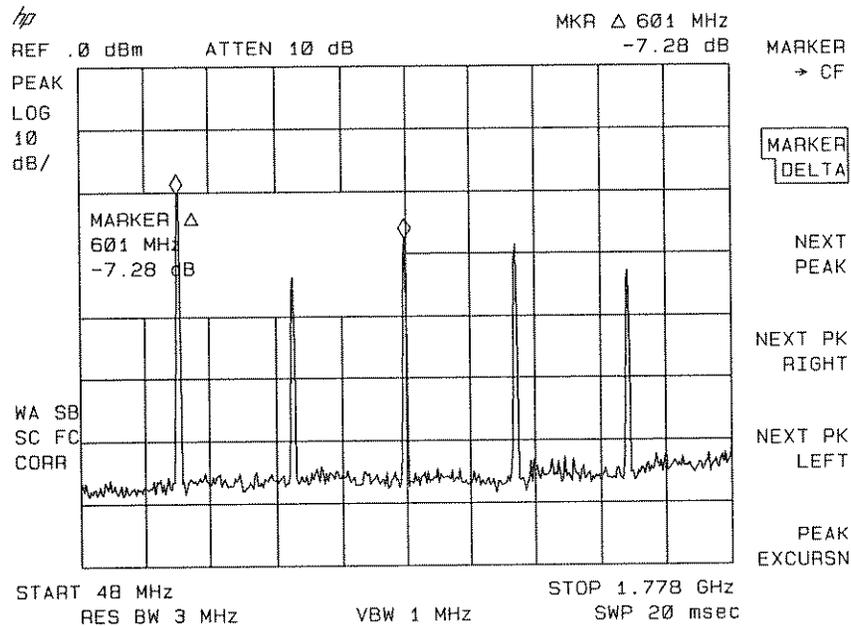

Figure 6-14. Using the Delta Meas Function
- The **DELTA MEAS** softkey also finds and displays the frequency and amplitude difference between the two highest-amplitude signals. To use this automatic function, first remove the local oscillator (LO) signal from the display by pressing **(FREQUENCY)**, **START FREQ**, and turning the knob until the LO signal at 0 Hz is off the screen. Press **(MEAS/USER)**, **MORE 1 of 2**, **DELTA MEAS**. See Figure 6-14.